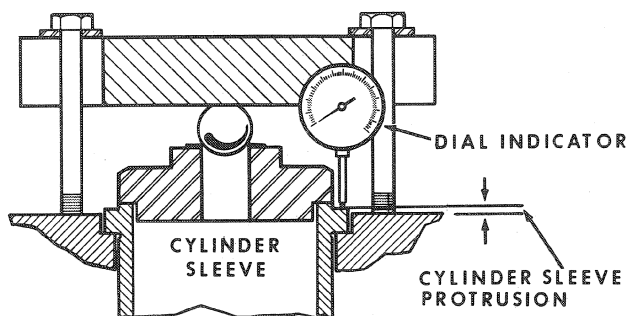

Figure L-3
4. Either a magnetic base dial indicator or a depth micrometer can now be used to determine the cylinder sleeve protrusion as indicated in Figure L-3. Refer to chart, Figure L-5, to make sure the correct fire ring is used.